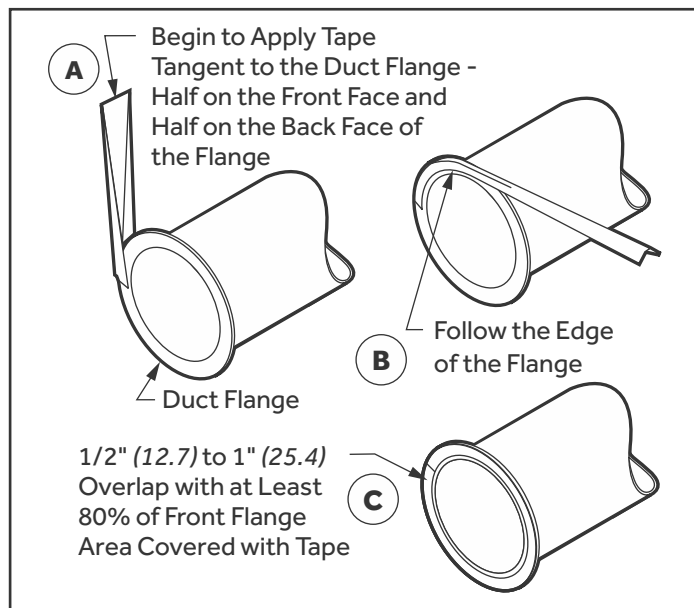

Fig. 9: Apply gasket for 4" (101.6) to 30" (762.0) duct
3. Install Gasket 4" - 30" (101.6 - 762.0): If the duct or fitting joint already has gasket tape applied, skip this step. Otherwise, the PTFE gasket is now applied which comes as an adhesive backed tape. Slide the floating ring a comfortable distance away from the duct rolled flange. Peel back the adhesive backing paper. Start (A) by firmly pressing the adhesive side of the tape to the rolled flange edge first at an angle tangent to the duct opening. Holding the end of the tape firmly in place, continue applying the tape (B) by pulling and tacking it along the edge of the duct rolled flange. There will be enough width to the tape to be able to press the tape about equal amount onto the front and back sides of the rolled flange. To complete this process (C), overlap the tape ends 1/2" (12.7) to 1" (25.4). Then firmly press the tape onto the rolled flange front and back to guarantee complete adhesion. Ensure about 80% of the front or outward flange surface area is covered with sealant tape for best mating joint. Slide the floating ring back against the rolled flange for duct installation. (Fig. 9)